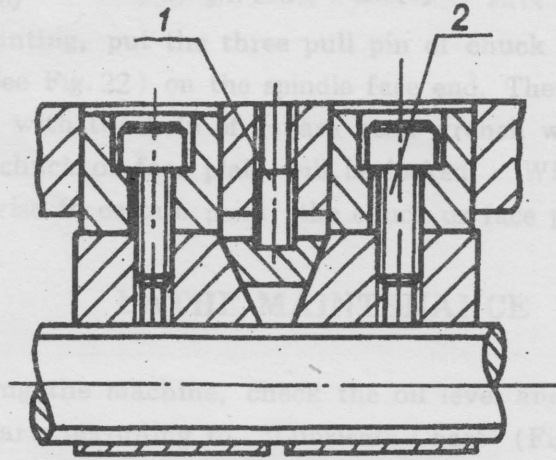

Fig.21 Adjust the clearance of cross feed nuts
- \* The handwheel (12) is used to feed or retreat the quill. Turning the handwheel in counter-clockwise until a full stop is reached will automatically eject the tool being used.
- \* The tailstock clamp lever (13) locks the tailstock to the bedway. To lock, put the lever up. To release, put it down.
- \* The quill lock lever (15) prevent the quill from moving. Before operating the handwheel (12), release the lever. Feeding the quill to desired position, lock it.
- \* Two set screws (14) on either side of the base is used to offset the tailstock. After taper adjustment is made, retighten both screws
5. See the Fig. 21 Adjust the clearance of cross feed nuts on the saddle as following.